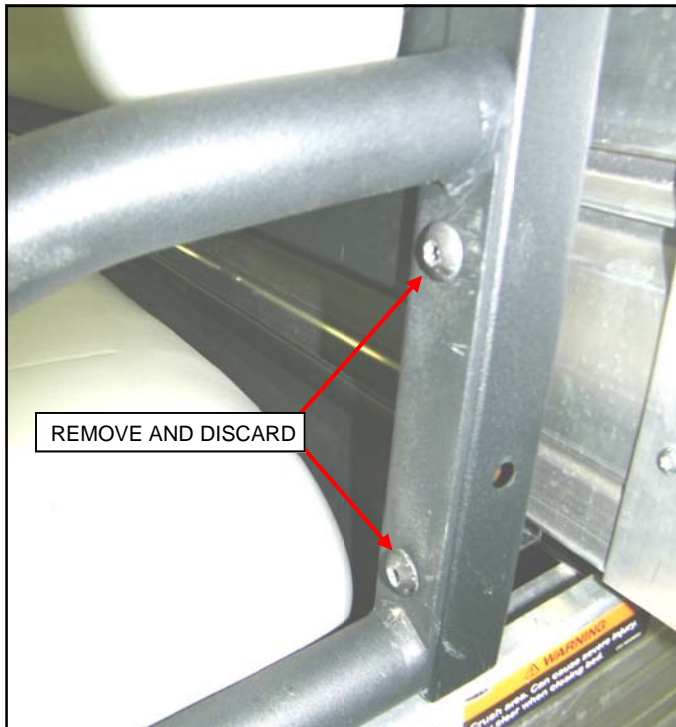

Figure 1.1: Seat Side Bolts
- 1.1 Remove and discard the bolts holding the seat back to the side bolsters (**Figure 1.1**).